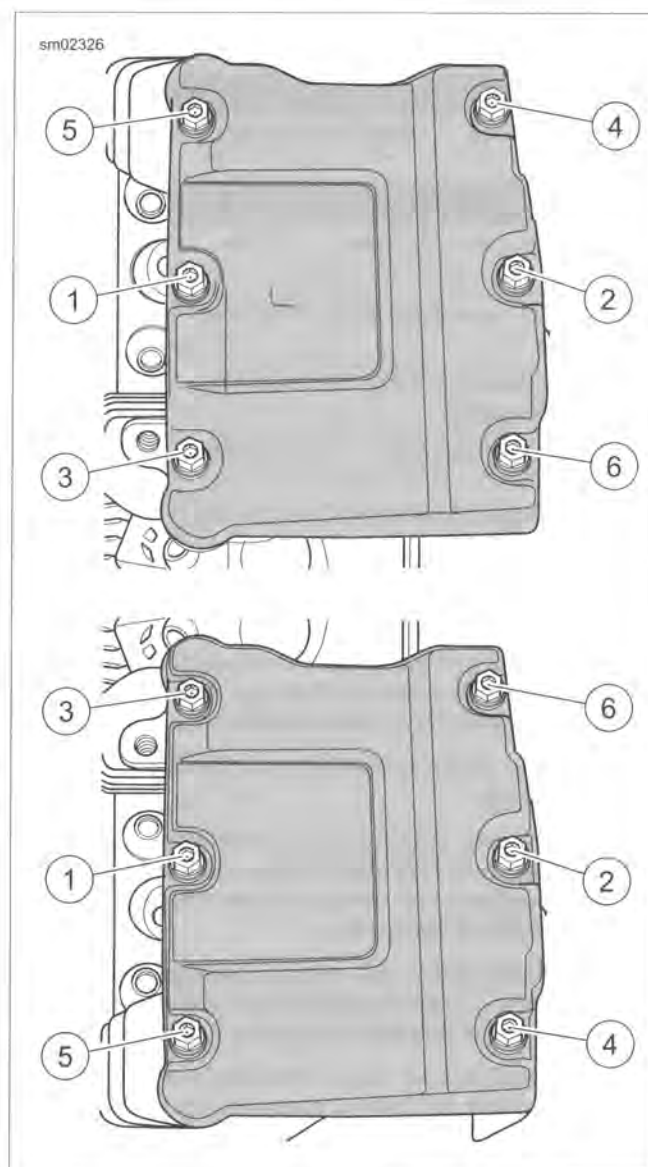

Figure 3-14. Rocker Cover Bolt Removal Sequence
2. See Figure 3-14. Following the sequence shown, alternately loosen the six rocker cover bolts. Remove the rocker cover bolts and their captive washers.